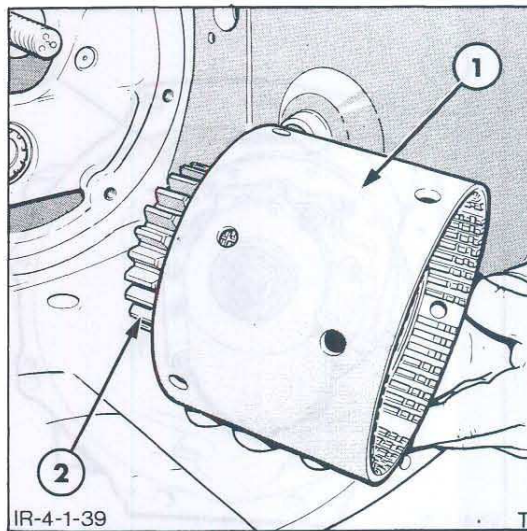

Figure 40
2. Install the partially assembled clutch housing, Figure 40, over the rear input shaft while exercising care to prevent damaging the roller bearings. Make sure the spacer, shim and thrust washer are installed on the rear input shaft.